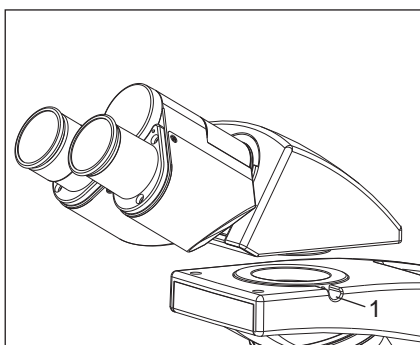

Fig. 8
1. Using allen wrench 3mm (provided), loosen the Head Locking Screw (1) and remove the dust cover cap provided in dovetail cavity as well as on observation head dovetail.
3. Tighten the Head Locking Screw (1) after positioning the Observation Head as desired. See figure 8.